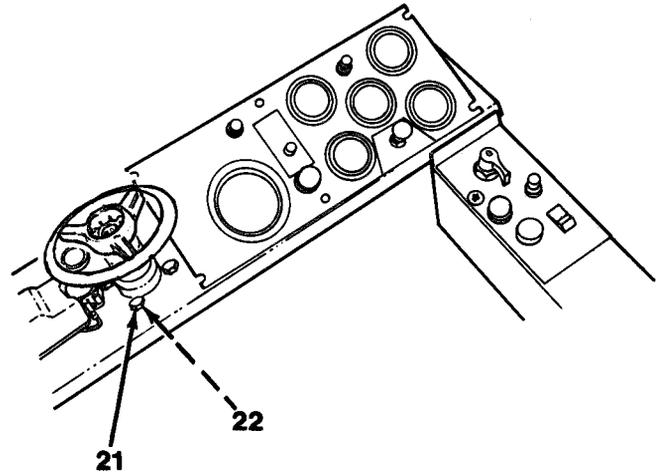

Figure 17-2
6. Disconnect two stop light wires (20) from brake light switch (59) on master cylinder (19).
7. Remove brake light switch (59) and elbow (60) from master cylinder (19).
8. Remove four capscrews (21) and lockwashers (22, Figure 17-2) and lower steering assembly down so that steering wheel rests on instrument panel.